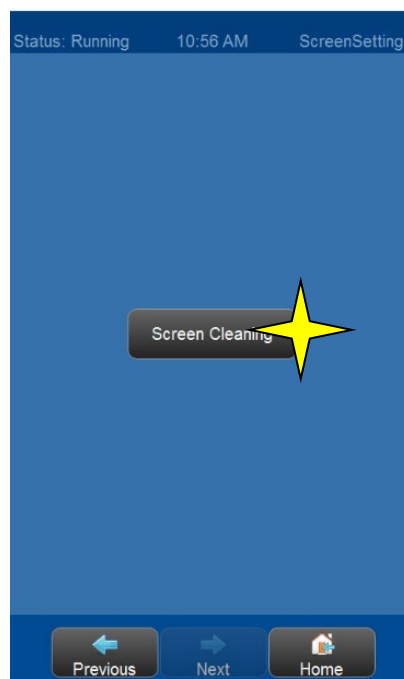

Figure G-2:
- 4) Next, press <SCREEN CLEANING> to activate the screen cleaning function **[Figure G-2]**.